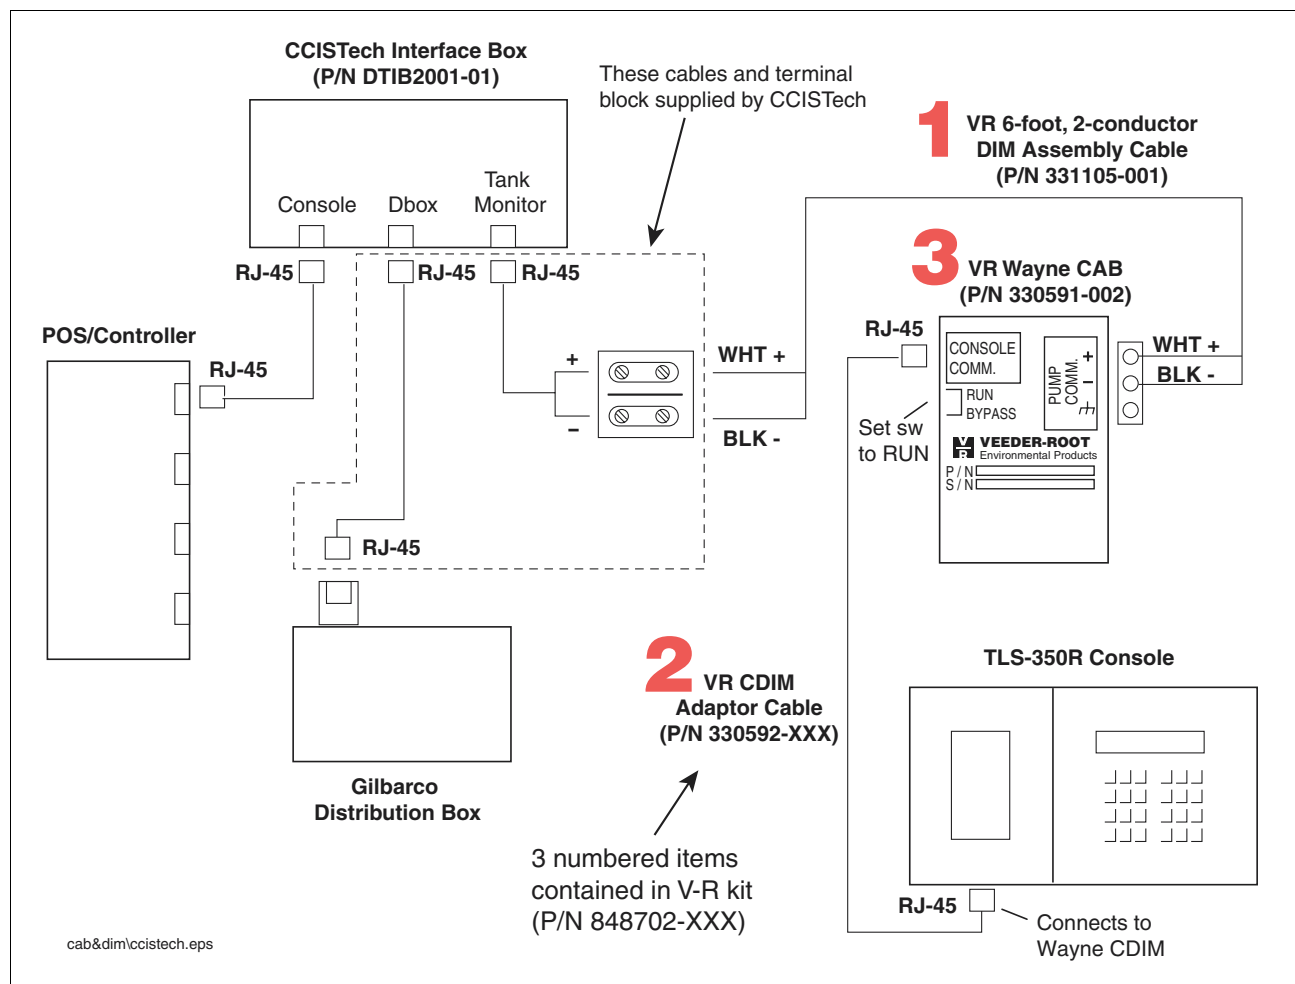

Figure 11. CCISTech POS Controller
The instructions furnished by CCISTech in their 080-Veeder Root Kit should take precedence in these installations (reference the CCISLINK Wiring publication - Veeder Root Wiring Diagrams). Figure 11 is an example wiring diagram for Veeder-Root components in this application. Note that if the polarity is not marked on the CCISTech terminal block to which the CAB's DIM assembly cable attaches (item 1 in Figure 11), it may be necessary to swap the two wires if the system does not operate properly.